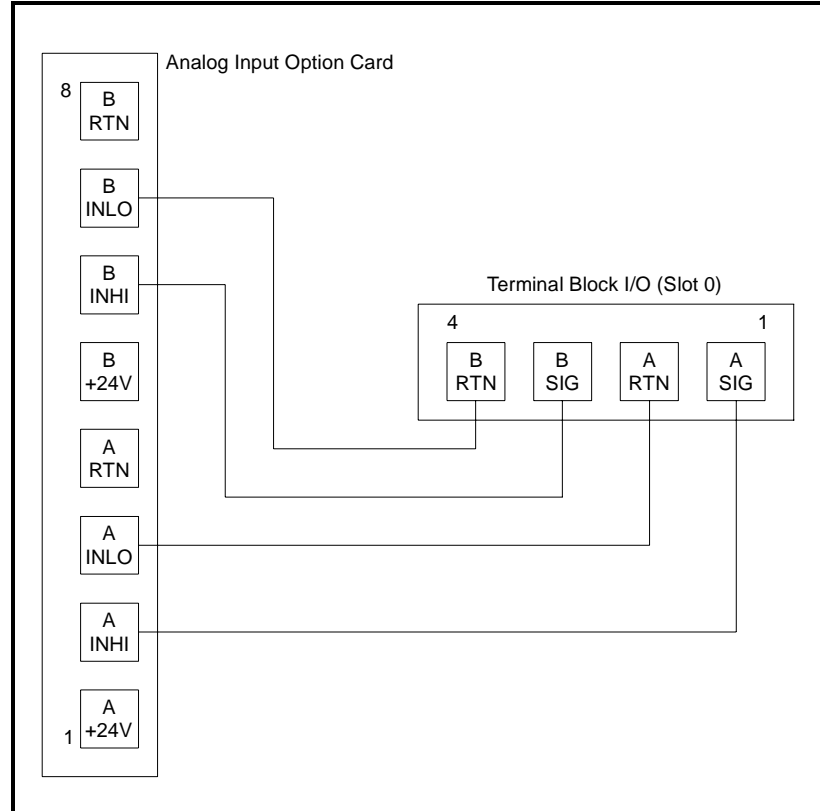

Figure 1-3: Analog Input Calibration Connections
Connect the Slot 0 analog output(s) (or an independent calibrated current source) to the analog input(s) on the option card, as shown in Figure 1-3 below. Refer to the menu map in Figure 1-6 on page 1-15 as a guide.
The procedure for calibrating Input A is identical to that for calibrating Input B. However, when calibrating Input B, be sure a calibrated current source is connected to the appropriate pins on the terminal block. See Figure 1-3 on page 1-6 for the correct pin numbers. To calibrate a 0/4-20 mA input card, see the section below.
1. Connect the 4 mA current source to the currently selected analog input, as shown in Figure 1-3 on page 1-6.
1. Connect the 20 mA current source to the currently selected analog input, as shown in Figure 1-3 on page 1-6.